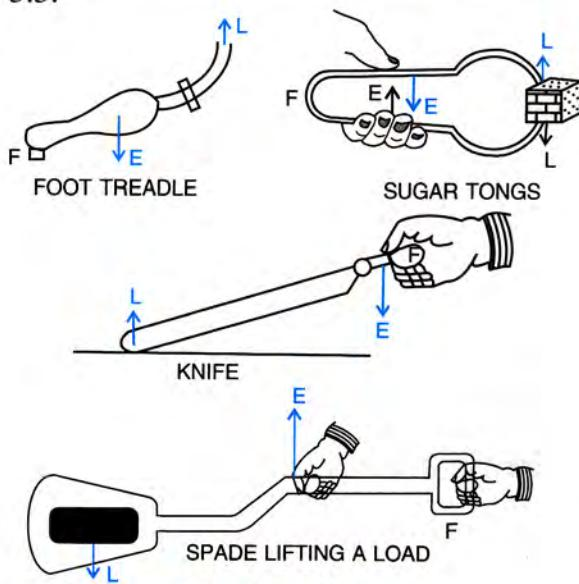

Fig. 3.5 Class III levers
**Examples :** Sugar tongs, the forearm used for lifting a load (or action of the biceps muscle), fire tongs, foot treadle, knife, a spade used to lift coal (or soil), fishing rod, etc. are the examples of Class III levers. Some of these are shown in Fig. 3.5.